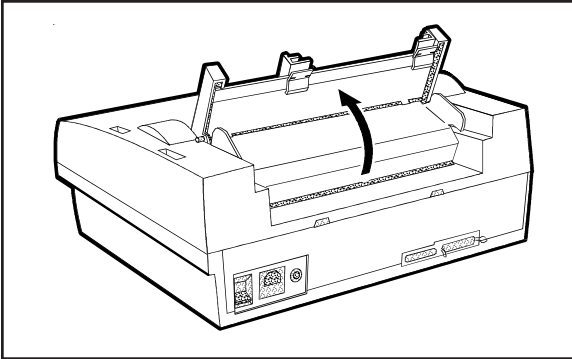

Figure 3-4. Raising the Tractor Cover
2. Raise the paper support and tractor cover, as shown in figure 3-4.